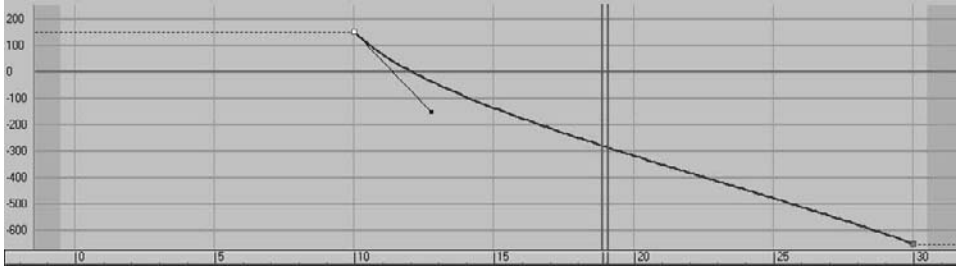

Figure 8.56
- Adjust the tangent handles to resemble the curve shown in Figure 8.56. The knife will speed up just a little bit as it leaves the first rotate keyframe. The speed will be even as it goes into the last keyframe.